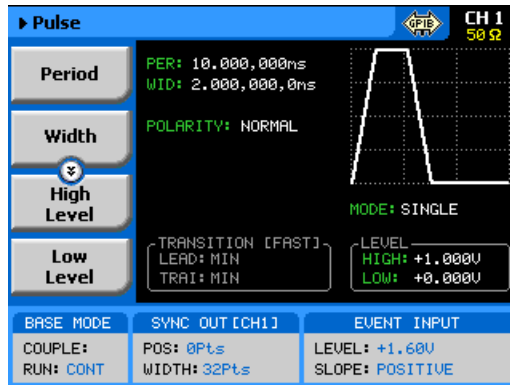

Figure 3-70, User-composed Pulse Patterns Menu
- Using the down key, scroll down with the menus to access the Pulse Composer menu tab, as shown in Figure 3-70.